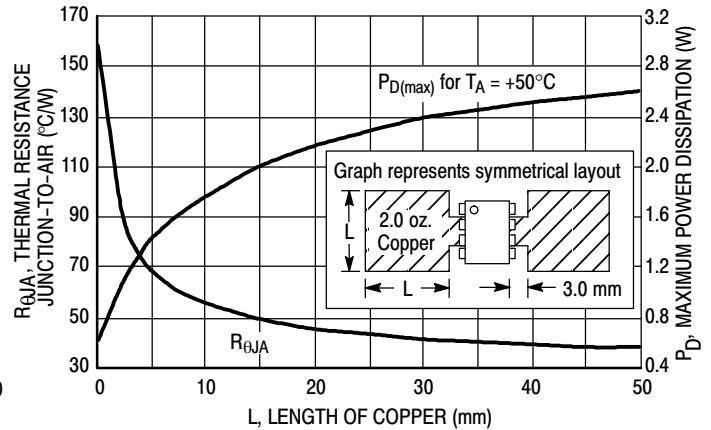

Figure 9. SOP-8 Thermal Resistance and Maximum Power Dissipation versus P.C.B. Copper Length
1. SOIC-8 Junction-to-Ambient Thermal Resistance is for minimum recommended pad size. Refer to Figure 9 for Thermal Resistance variation versus pad size.